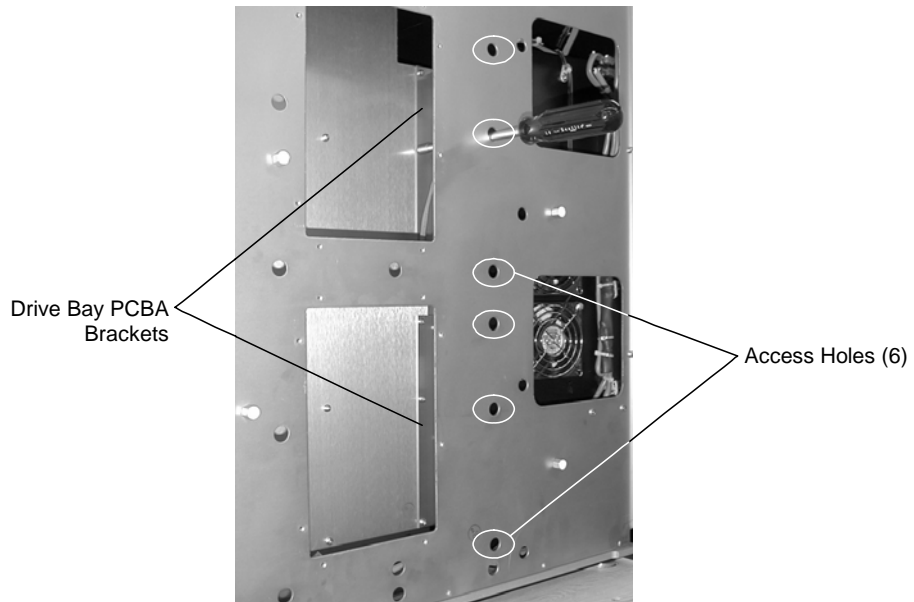

Figure 7-55 Drive Bay PCBA Brackets and Access Holes - Right Side of TLS
7. Through the access holes in the right side of the TLS use a number 2 Phillips screwdriver to remove the three Drive Bay PCBA Bracket screws for the PCBA being removed. Save the screws for later use (Figure 7-55).
8. With a use a number 2 Phillips screwdriver reach through the three access holes in the side of the TLS and tighten the three Drive Bay PCBA Bracket screws (Figure 7-55).